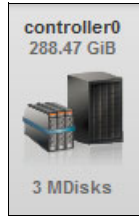

Figure 4-20 IBM Spectrum Accelerate MDisks that are detected by the Storwize V7000 system
- The newly detected MDisks are shown in Figure 4-20 and Example 4-12. There are three free MDisks. They are 2.91 TiB (3201 GB).